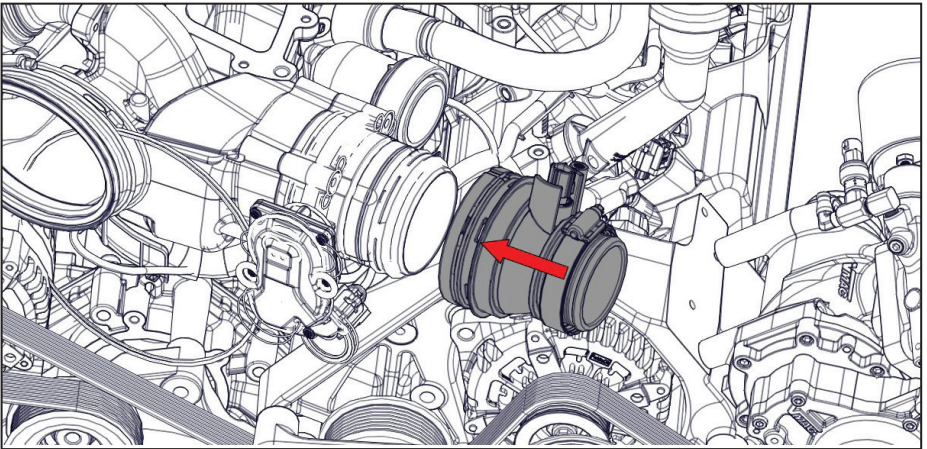

Figure 96 — Installing the CAC hoses
- ☐ Remove the quick connect fitting from the OEM hose and reinstall it on the vehicle. Save the hose clamp for reuse (Figure 96).